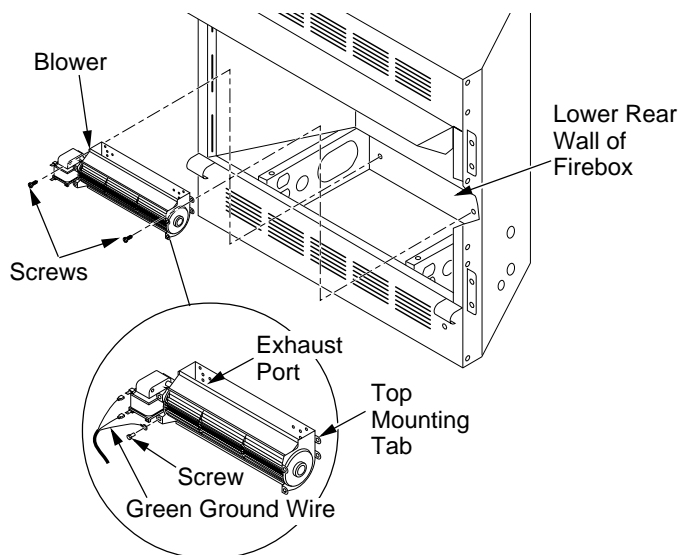

Figure 14 - Mounting Blower to Firebox
3. Attach green ground wire from power cord to blower housing using screw provided (see Figure 14). Tighten screws securely.
4. Place the blower against lower rear wall of firebox outer wrapper with the exhaust port directed upward. Align the holes in top mounting tabs of blower with holes in wall of wrapper (see Figure 14). Using 2 screws provided, mount blower and tighten screws securely.